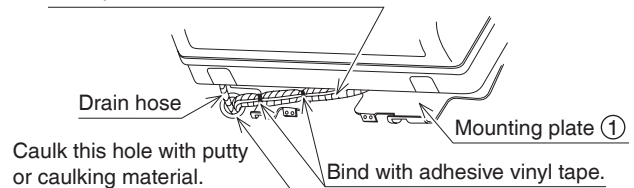

Fig. 17
- Wrap the refrigerant pipes and drain hose together with insulating tape ④ as shown in **Fig. 17**.